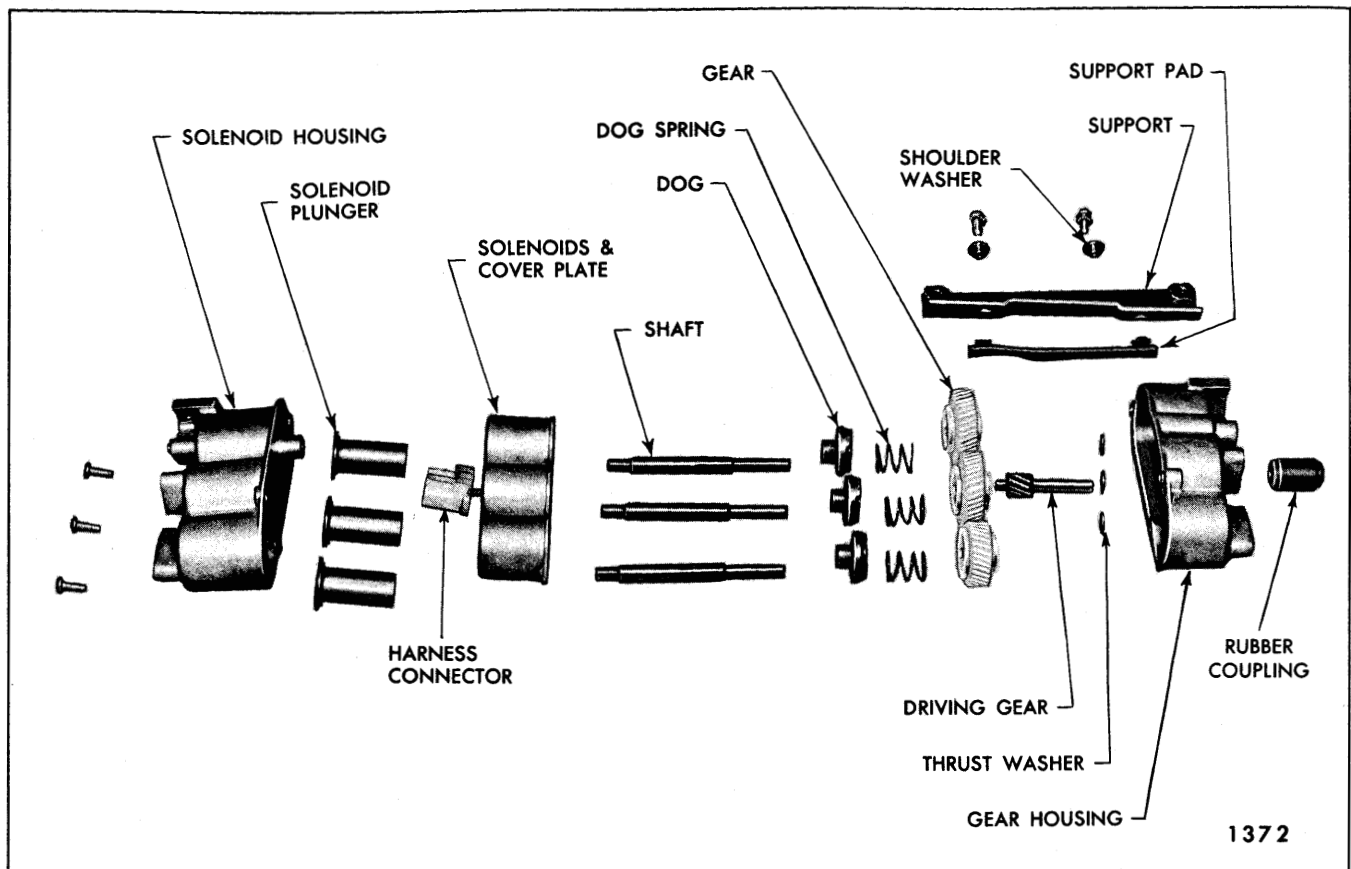

Fig. 10-20—Six-Way Seat Adjuster Transmission - "B & C" Style
2. Remove screws securing gear housing to the solenoid housing; then, carefully separate housings and remove component parts of transmission assembly (Fig. 10-20).